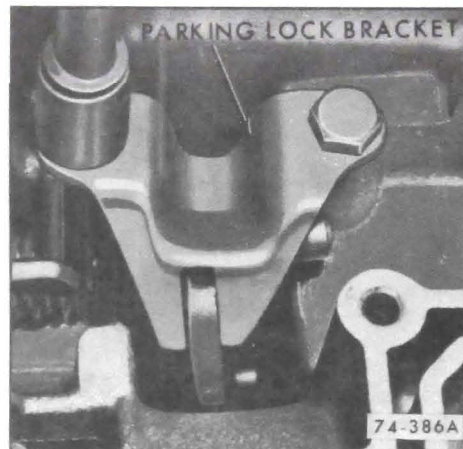

Figure 74-160
1. Remove two (2) parking lock bracket bolts. See Figure 74-160. Remove parking lock bracket.